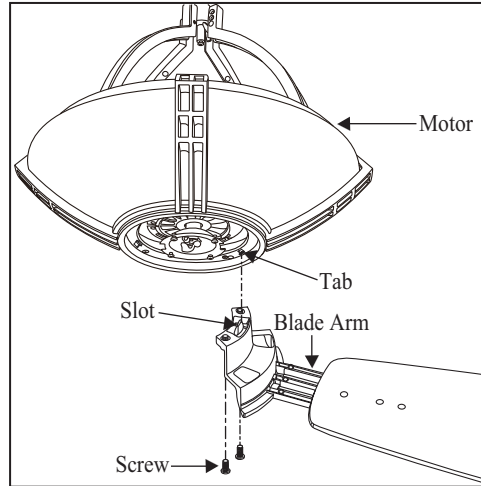

Figure 15
3. Fasten the blade assemblies to the motor housing by lining up the slots of the blade arms with the tabs on the motor housing, then tighten the two screws and washers already installed in the blade arms. (Fig. 15)